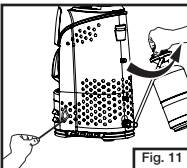

Fig. 11
- Insert lighted match through the Match Hole and hold match near burner and open regulator valve to "HIGH". (Fig. 11)